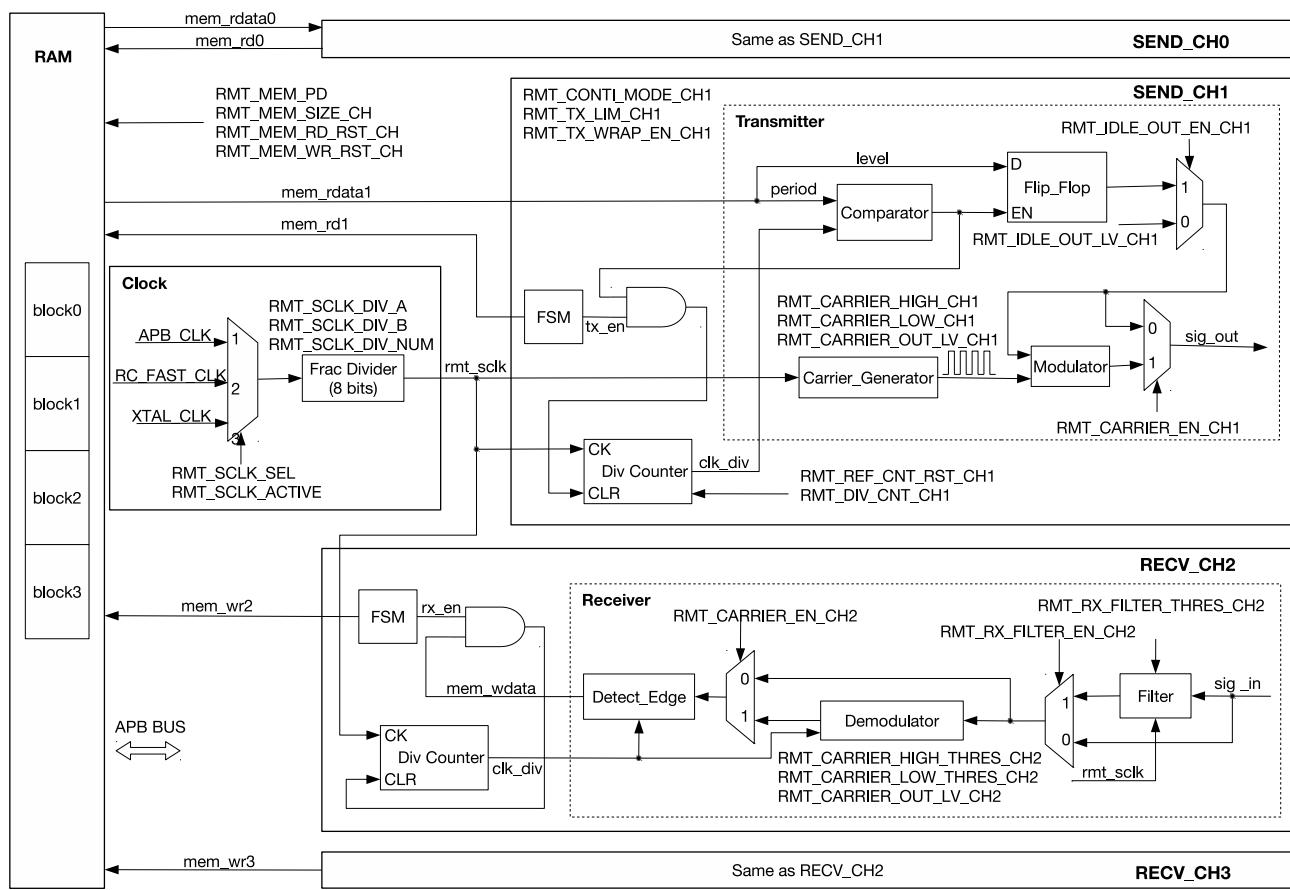

Figure 33-1. RMT Architecture
- Period: points out how many clk\_div clock cycles the level lasts for, see Figure 33-1.
The clock source of RMT can be APB\_CLK, RC\_FAST\_CLK or XTAL\_CLK, depending on the configuration of RMT\_SCLK\_SEL. RMT clock can be enabled by setting RMT\_SCLK\_ACTIVE. RMT working clock (rmt\_sclk) is obtained by dividing the selected clock source with a fractional divider, see Figure 33-1. The divider is:
RMT\_DIV\_CNT\_CH $n/m$  is used to configure the divider coefficient of internal clock divider for RMT channels. The coefficient is normally equal to the value of RMT\_DIV\_CNT\_CH $n/m$ , except value 0 that represents coefficient 256. The clock divider can be reset by clearing RMT\_REF\_CNT\_RST\_CH $n/m$ . The clock generated from the divider can be used by the counter (see Figure 33-1).